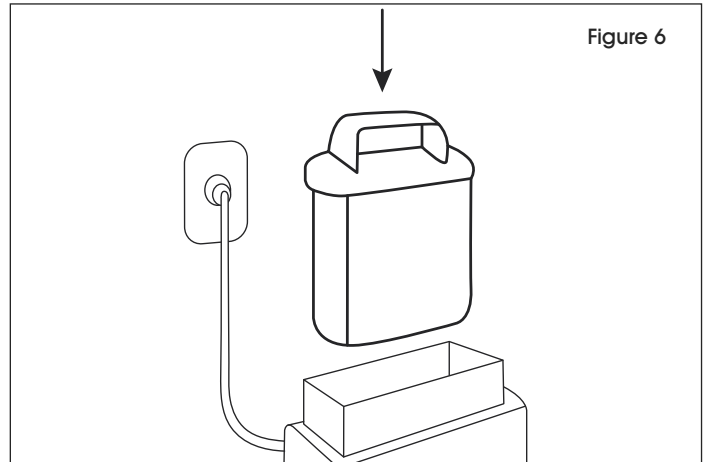

Figure 6
2. Insert the battery into the charging base. (See Figure 6)